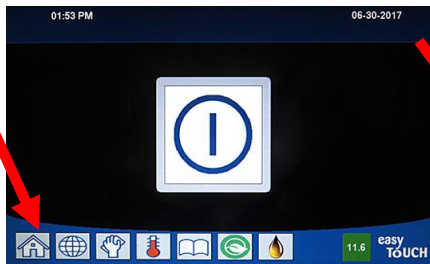

Figure 21
12. Wait two (2) minutes and press the **"HOME"** button on the (see Figure 21).
18. Press the “HOME” button (see Figure 21) when finished.